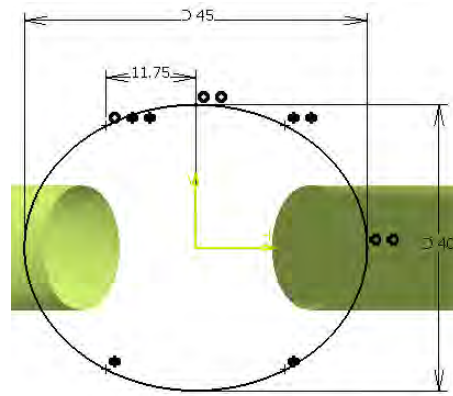

Figure 9-66 The second section for creating the multisection surface
6. Draw the sketch for second section, as shown in Figure 9-66. Note that the sketch consists of an ellipse and four points.
14. Select the first coupling point on the first section, refer to Figure 9-66. The selected point is displayed in the **Coupling** dialog box.
15. Select the first coupling point on the second section, refer to Figure 9-66. The coupling created is displayed in the geometry area.
17. Create the second, third, and fourth couplings, refer to Figure 9-66.